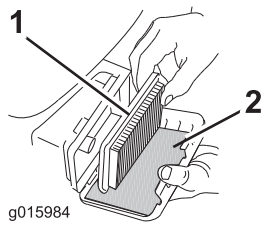

Figure 27
3. Remove the paper air filter and the foam pre-filter (Figure 27).